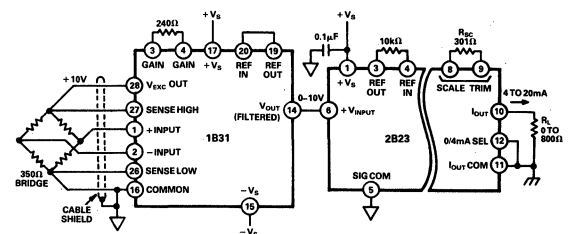

Figure 20. Isolated 4-20mA Transmitter
**Isolated Current Loop Interface:** The output of the 1B31 can be interfaced to a process loop as shown in Figure 20. The 2B23 module produces an isolated 4-to-20mA output current which is proportional to the input voltage and independent of the output load resistance. Common-mode input/output isolation is ±1500V pk continuous.